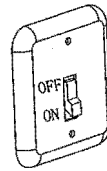

Fig. 21
17. Turn on the wall switch after installation, to check if the fixture was wired correctly, avoiding the existence of poor wiring. (Fig.21)